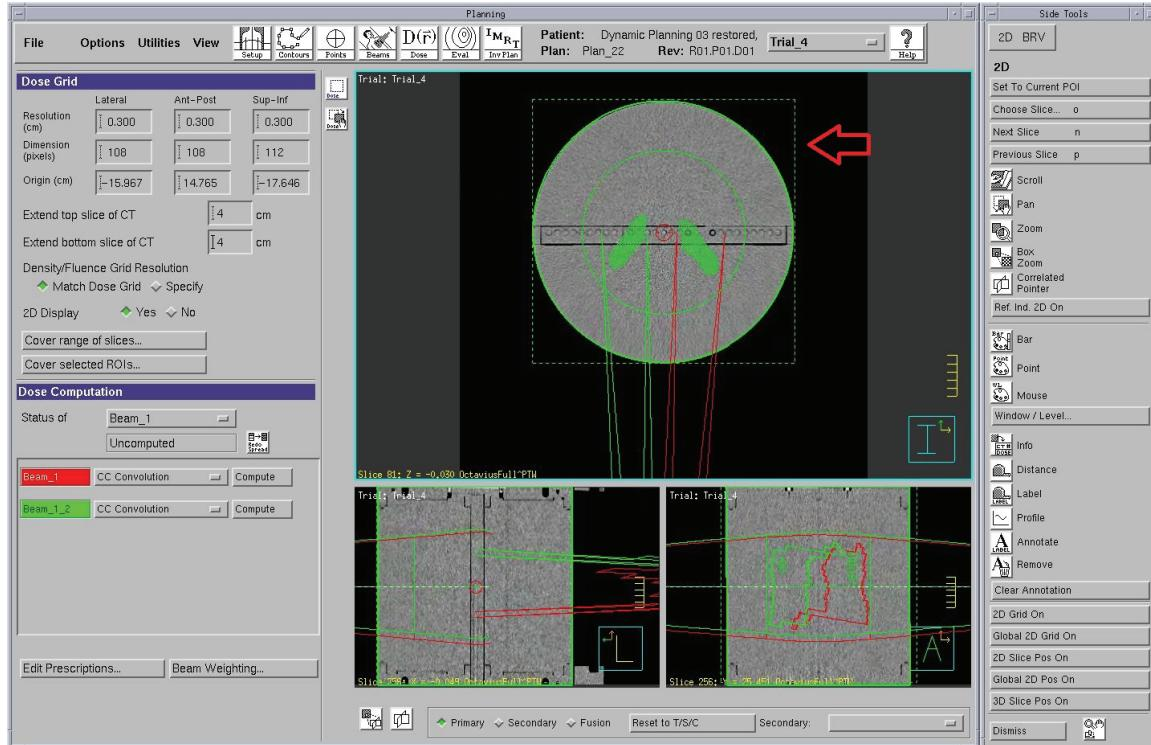

Fig. 4.7 Dose grid specification and shaping
3. Specify the dose grid, and shape it so to include the OCTAVIUS 4D cylindric body ROI (Figure 4.7).